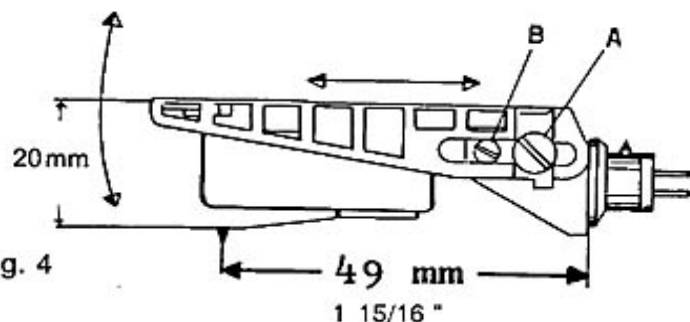

Fig. 4
a) Loosen slightly the two screws A on both sides of the shell and small screw B (see Fig. 4).
The optimum distance of 230 mm between stylus tip and vertical tone arm bearing is obtained when the stylus tip is at a distance of 1,15/16" (49 mm) from the rear vertical surface of the plug-in shell. See Fig. 4. Tighten the two screws A.